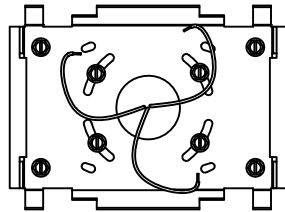
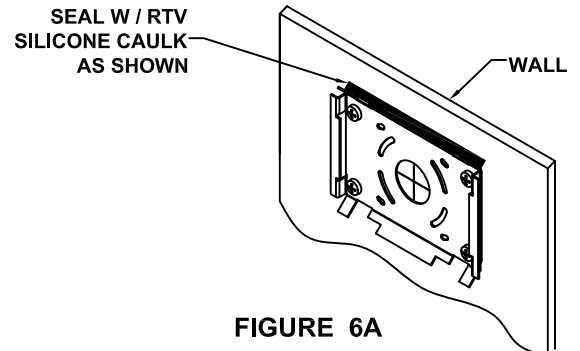

FIGURE 6
FIGURE 6A
6. IF JUNCTION BOX IS RECESSED INTO WALL (FLUSH WITH WALL SURFACE), MARK 4 LARGE HOLES ONTO WALL. SECURE PLATE TO WALL WITH SUITABLE FASTENERS AND ANCHORS. SEE FIGURE 6. WARNING: DO NOT RELY ON JUNCTION BOX SCREWS ALONE TO SECURE MOUNTING PLATE TO WALL! APPLY RTV SILICONE CAULK. SEE FIGURE 6A. PROCEED TO STEP 8.